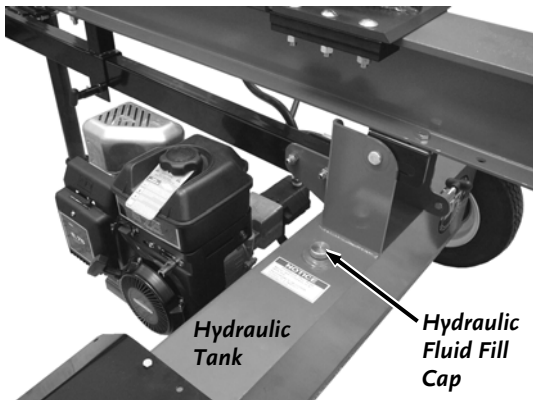

Figure 22
1. Remove the hydraulic fluid fill cap and fill the hydraulic tank (**Figure 22**) with the recommended fluid (see the “specifications” section, page 2). The tank is full when the fluid level is approximately one inch from the top of the tank. Do not tighten the fill cap at this time.